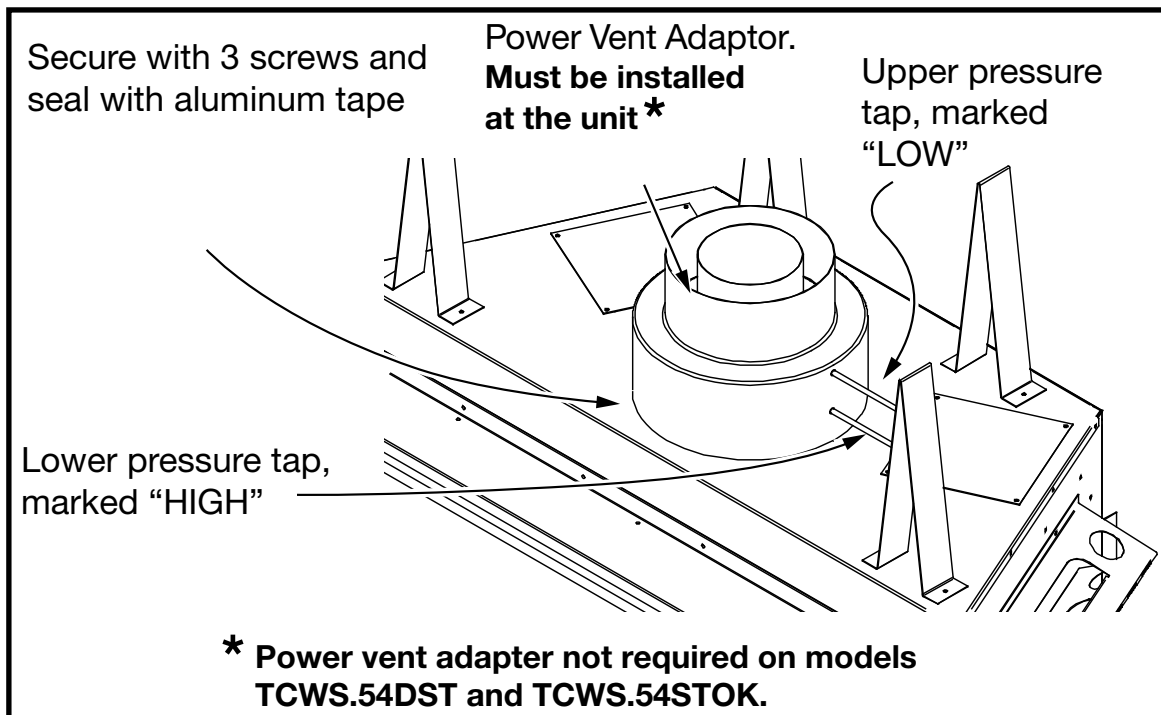
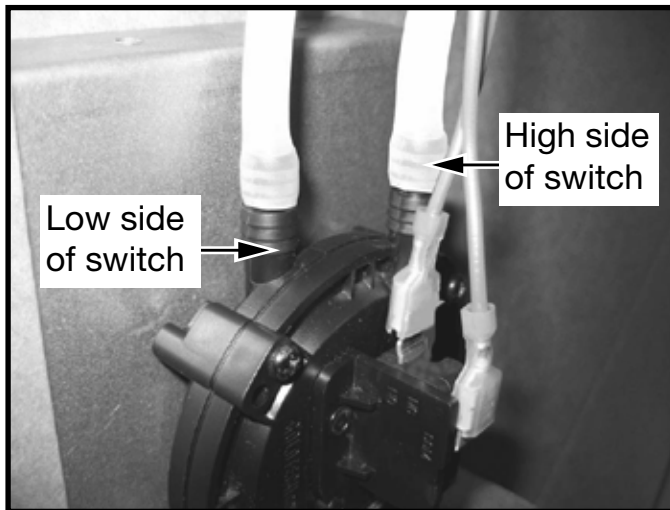
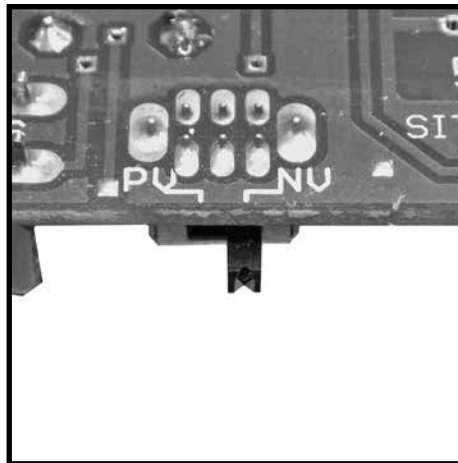

Figure 9: Power vent adapter.
Figure 12: High and low sides of switch for Series D.
Figure 13: Vent mode selection switch.
1. Attach the vent adaptor directly to the appliance with the three screws (Figure 9) and seal outer pipe with aluminium tape provided.
2. Connect one of the high temperature silicone tubes to the upper pressure tap (marked "LOW") on the adaptor (Figure 9). Secure with the hose clamp provided and route the tube through any hole back to the control box. This tube will be connected to the "low" side of the pressure switch inside the control compartment. Connect the second tube to the lower pressure tap (marked "HIGH") and route to the control box as before. Connect this tube to the remaining port on the pressure switch.
Attach the silicone tube from the upper pressure tap on the power vent adaptor (Figure 9 on page 12) to the “low” port of the pressure switch. Attach the other silicone tube from the lower pressure tap to the “high” port of the pressure switch (Figure 12).
The NV / PV (Natural Vent / Power Vent) switch (Figure 12) on the interface board (Figure 13) is set according to which type of evacuating vent system is present. If the fireplace is vented without the assistance of a power vent, the switch should be set to “NV”. If using a power vent, “PV” must be selected.